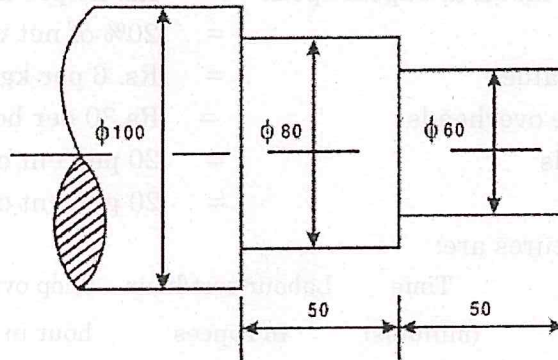

Figure 4
- (b) Calculate the machining time to turn the dimensions shown in figure 4 starting from a mild steel bar of 100 mm. The cutting speed with HSS tool 80 m/min and feed is 0.8 mm/rev., depth of cut is 3 mm per pass.